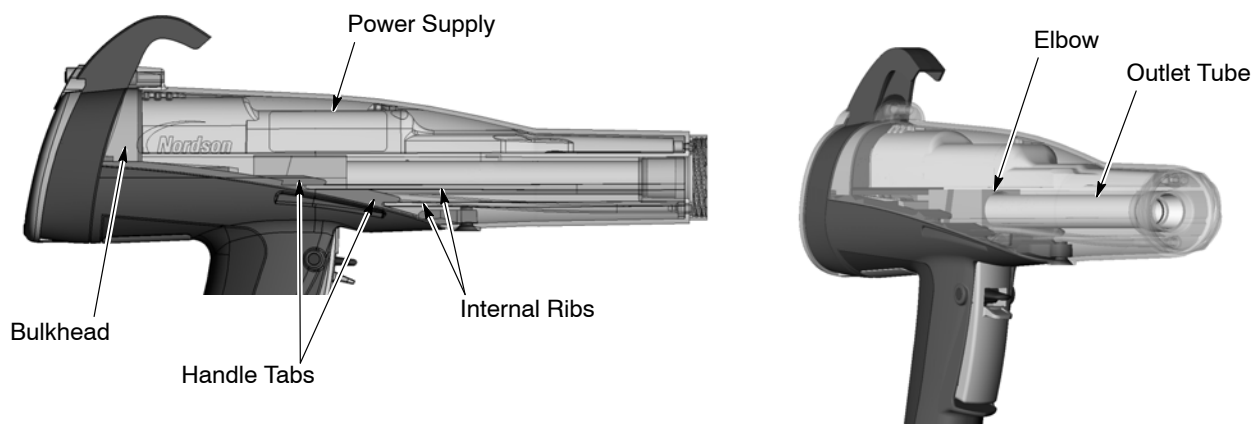

Figure 6 Gun Re-Assembly
1. See Figure 6. Align the gun body with the handle and slide them together, engaging the internal ribs of the gun body with the handle tabs.